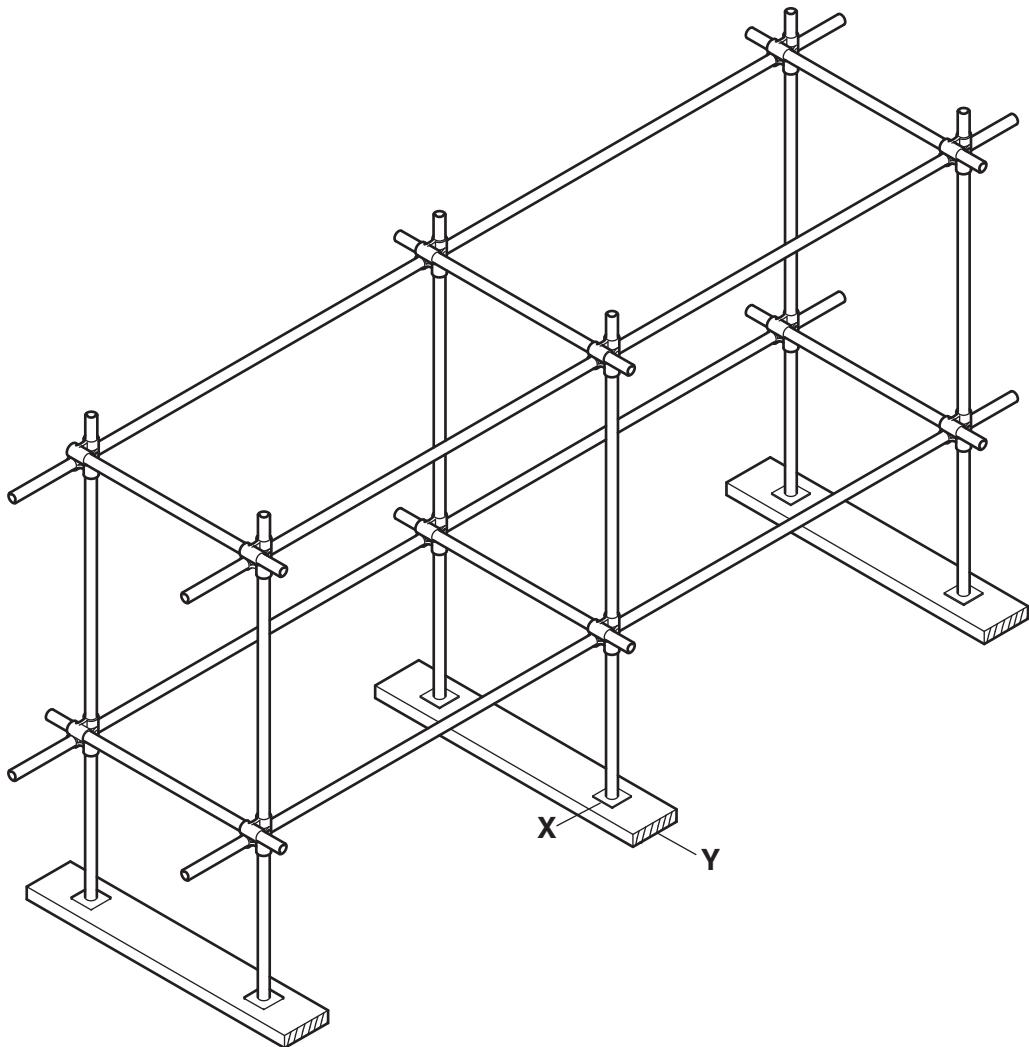

Fig. 5
- 10** Fig. 5 shows the initial design for a scaffold to give safe access while building work is carried out.
- (ii)** Draw on Fig. 5 **three** additional scaffolding poles to make the structure rigid and safe from collapse. [3]